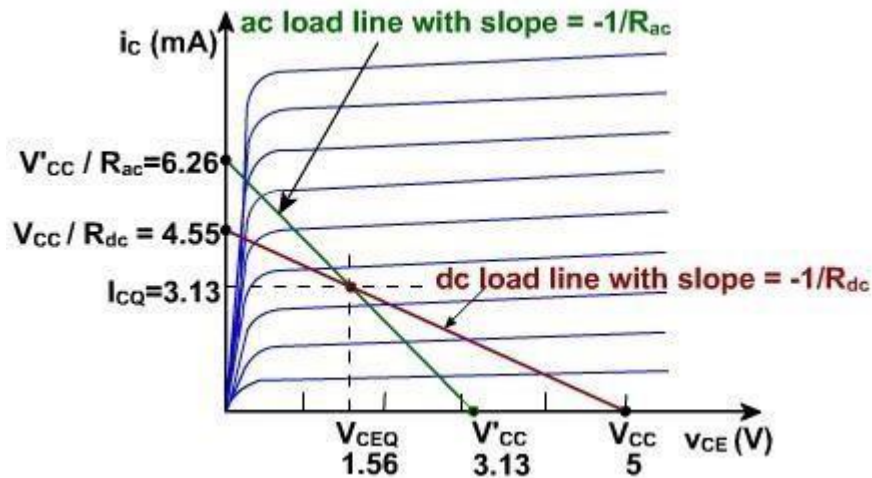

Fig. 6
**The load lines are shown on the characteristics of fig. 6.**